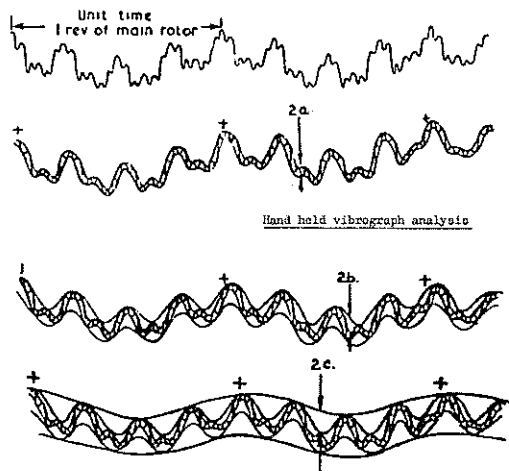

Fig. 2
8. Hand Held Vibrograph. The clockwork driven hand held vibrograph was the first step towards analysing the sources of vibration. However, a trained operator could only discern about 3 or 4 frequencies by this method (Fig. 2) after a laborious graphical analysis when he returned to his office.